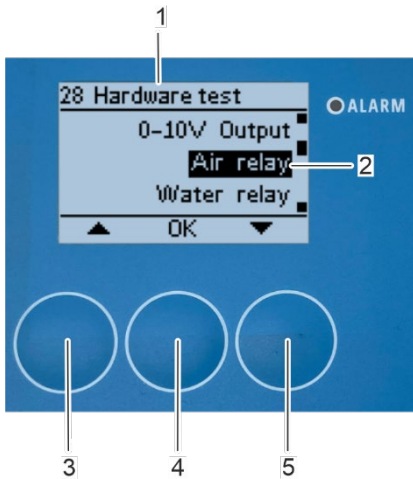

Fig. 144: Open submenu "air relay"
⇒ The “28 Hardware test” submenu appears again on the display (Fig. 144/1) and the rotor slows down to a standstill.
1. Select the "Air relay" submenu (Fig. 144/2) with the arrow keys [up] (Fig. 144/3) and [down] (Fig. 144/5).
2. Confirm the selection with [OK] (Fig. 144/4).